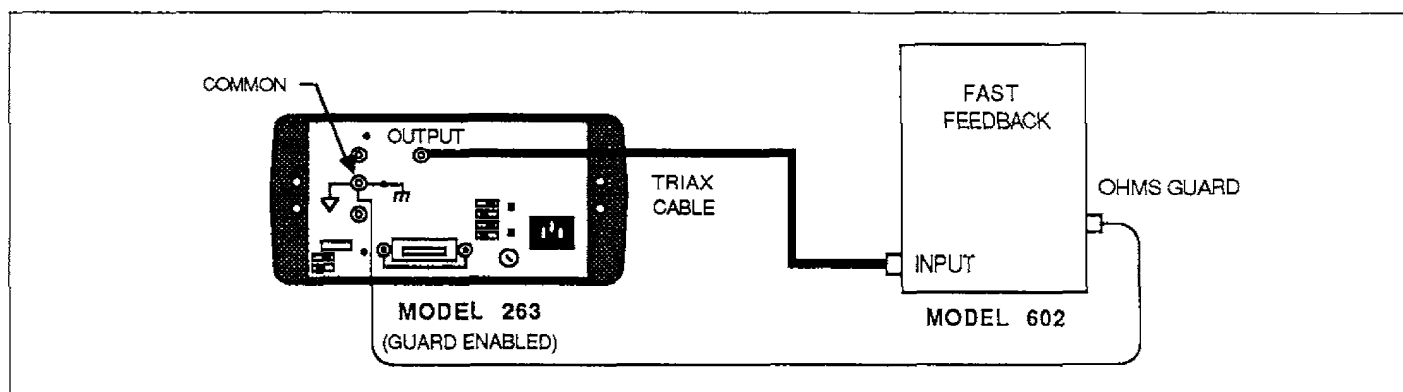

Figure 5-13. Model 602 Ohms Accuracy Checks ( $\geq 1G\Omega$ )
3. Resistance Accuracy Checks — The procedures in this paragraph use precision resistors to check accuracy. Instead, use the Model 263 to source the appropriate resistance. When sourcing  $100\text{M}\Omega$  or more to the Model 602, it is recommended that guarding be used. For guarded ohms, enable guard on the Model 263, place the feedback switch of the Model 602 in the FAST position, and connect the instruments as shown in Figure 5-13.